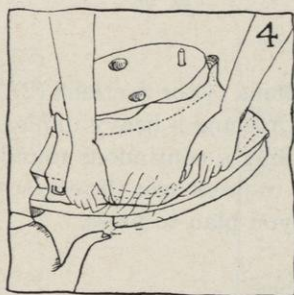

FIG. 4.
- Steam the felt again, without removing it from block, and stretch the larger edge of the felt well at the edge of the block (see Figure 4) and tack (with staples) **only in the groove**,